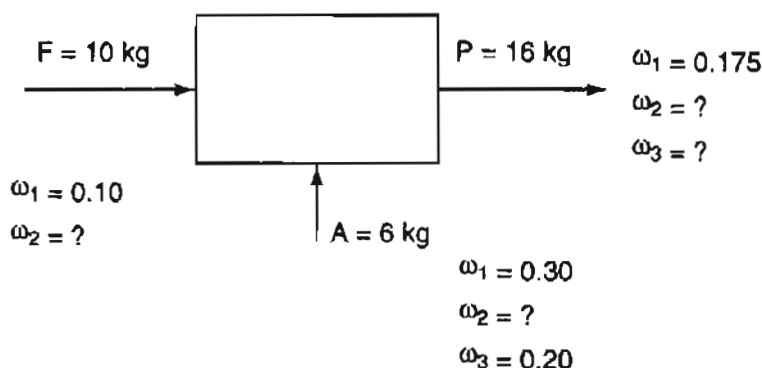

Figure P7.7
****7.7** In the steady state process (with no reactions occurring) in Figure P7.7 you are asked to determine if a unique solution exists for the values of the variables. Does it? Show all calculations.